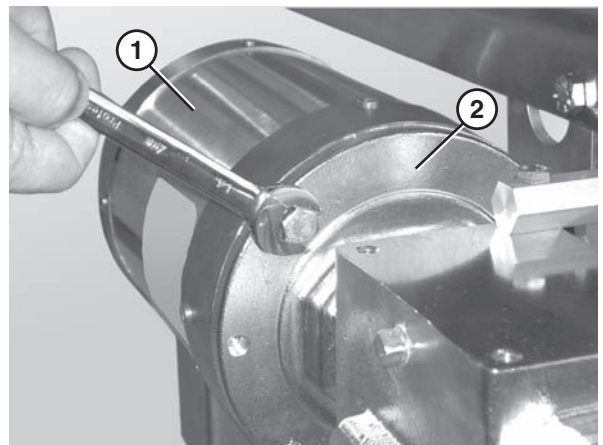

Figure 51
2. Remove the bolts that connect the motor to the drive assembly (**Figure 51**).
3. Remove the motor (**Figure 51, item 1**) from the drive assembly (**Figure 51, item 2**).